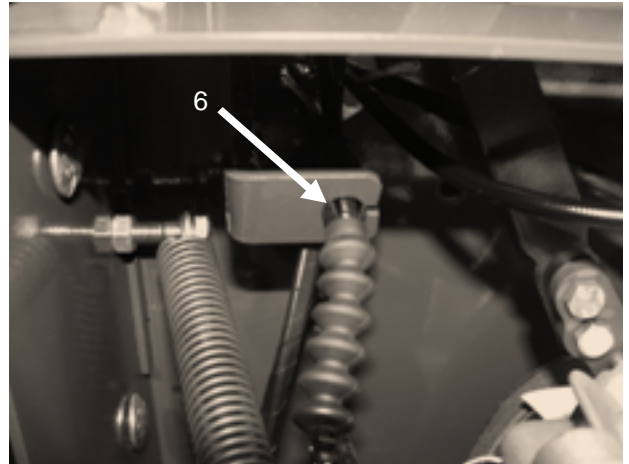

Figure 38
6. With a pair of pliers, collapse both tabs and carefully remove cable **Figure 38**.